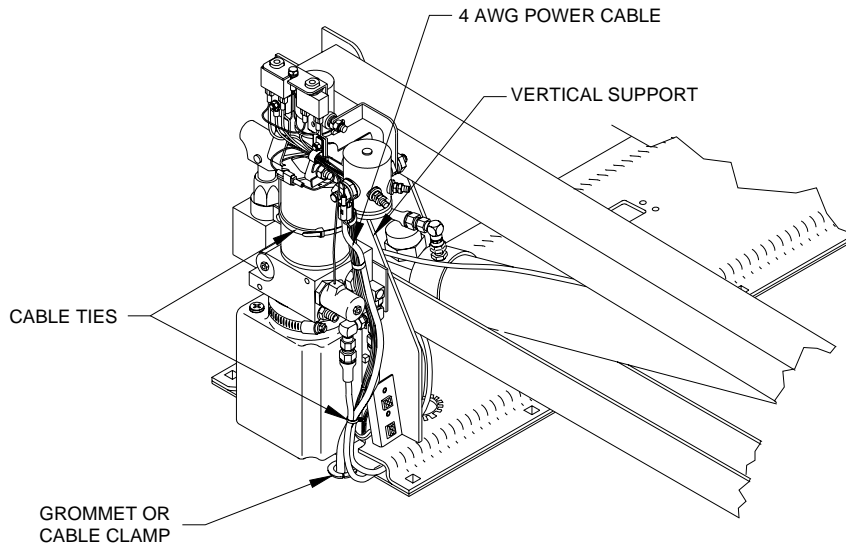

FIGURE 2-11: CABLE ROUTING
- e. Refer to **Figure 2-11**. Cut any excess wire from long cable, install remaining heavy ring terminal to unterminated end of long cable, and connect it to live side of solenoid. Verify that red wire from main circuit breaker (if applicable) is connected to positive solenoid pole.